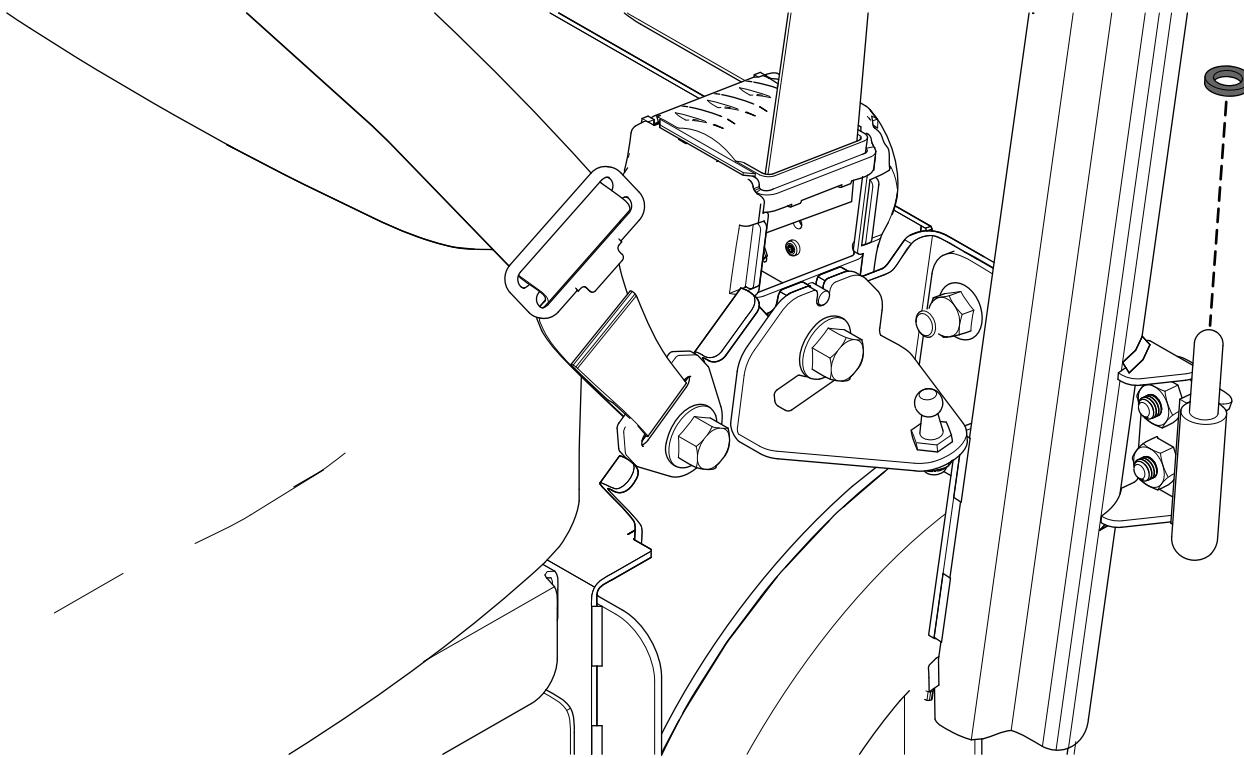

Figure 6
2. Install a spacer washer onto each left door hinge (Figure 6).